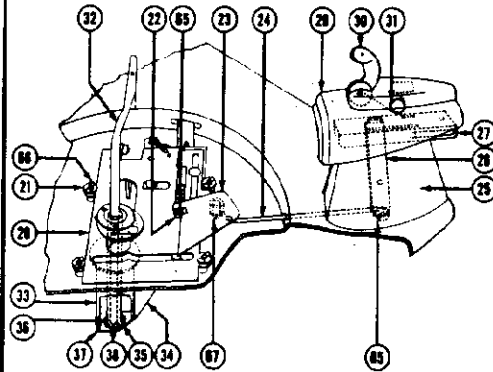

Fig. 4
<p style="text-align: center;">DISPLACEMENT OF A RECORD (Fig. 4)</p> <p>Record Selection.</p>	<ol style="list-style-type: none"> 1. Main Slide (20) moves toward right rear corner of changer. 2. Ejector Roller (22) engages a notch in Ejector Arm (23) and moves this arm plus Ejector Link (24) as well as attached Ejector Lever (26). 3. Ejector Lever (26) engages with a slotted hole in Channel (27) and moves attached Record Support Arm (29) away from Center Post (32). This movement allows bottom record of a stack to drop from the second step on Record Support Arm (29) to the first step.